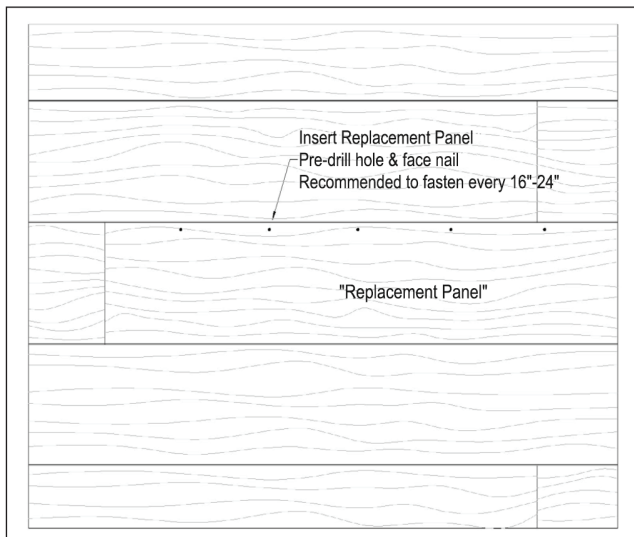

Figure 13
- Insert the plank, pre-drill holes along the top of the panel. The holes should be at least 1/16" larger in diameter than the trim nails (Figure 13).
- Insert the plank with pre-drilled holes & face nail every 16"-24" along the top of the panel using color matched trim nails; or, you can paint the head of the fastener (Figure 13).